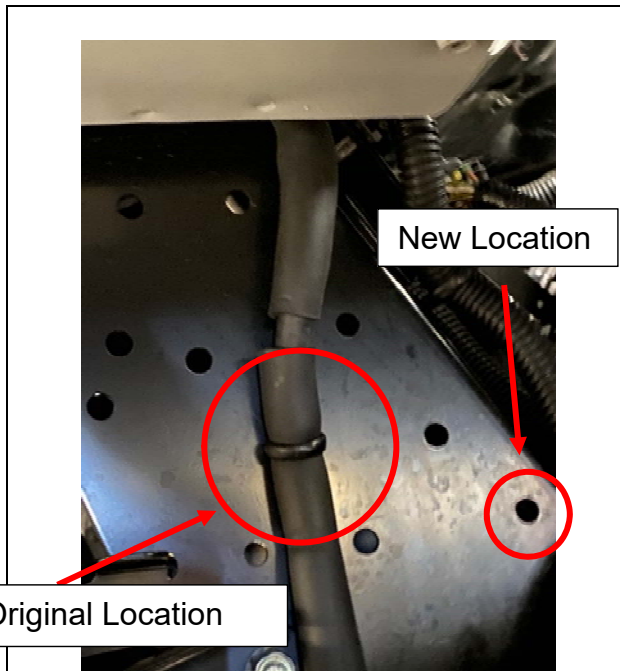

Figure 8
8. Locate the one existing frame harness clip securing the coolant surge hose to the body mount bracket. (See Figure 8.) Relocate the coolant surge hose and the frame harness clip to the new location as shown in Figures 8 and 9. Ensure that both tabs are properly bent outwards on the back side of the body mounting bracket.